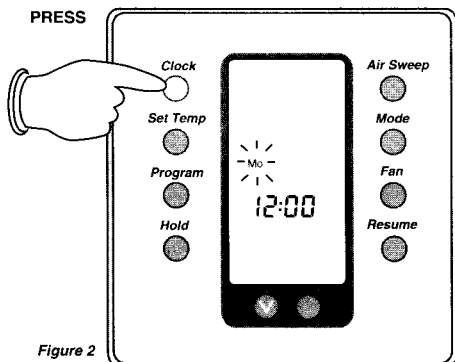

Figure 2
STEP 1: Press and release the CLOCK button. Display will flash MO (Monday). Figure 2